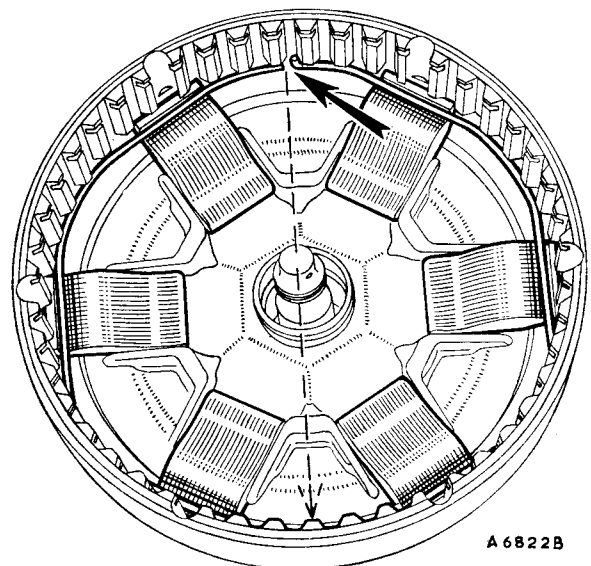
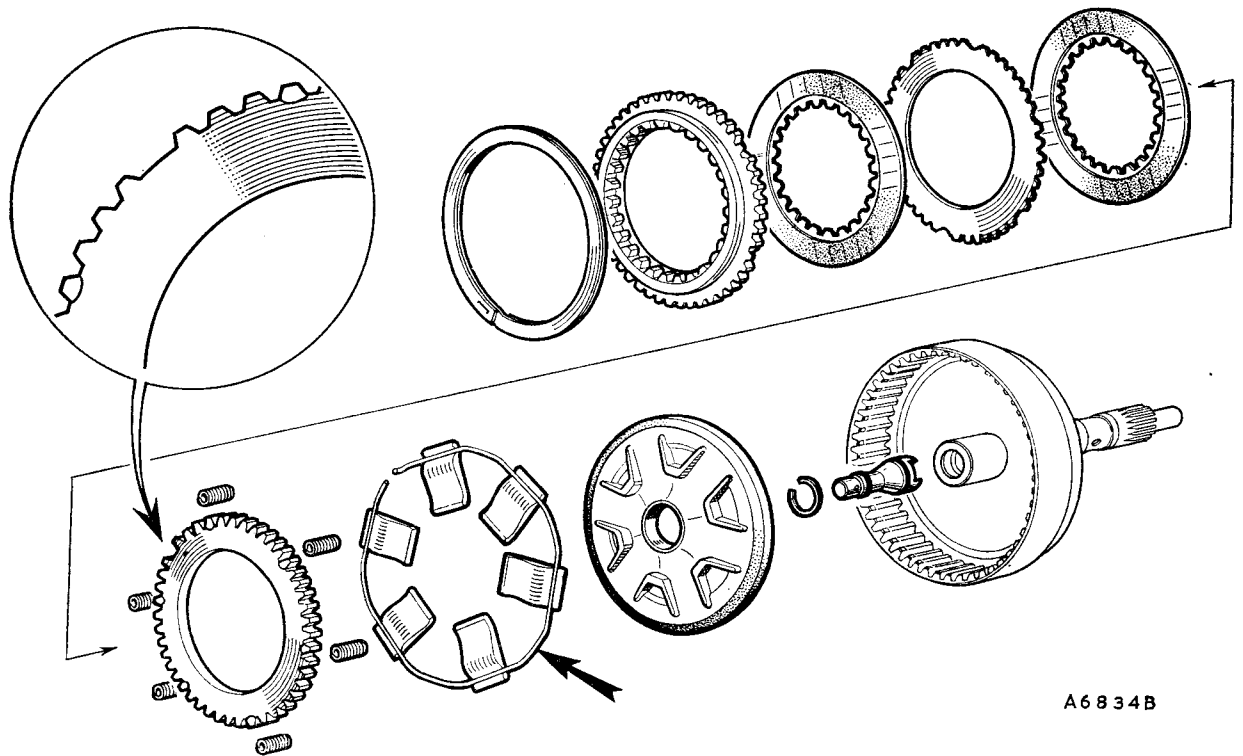
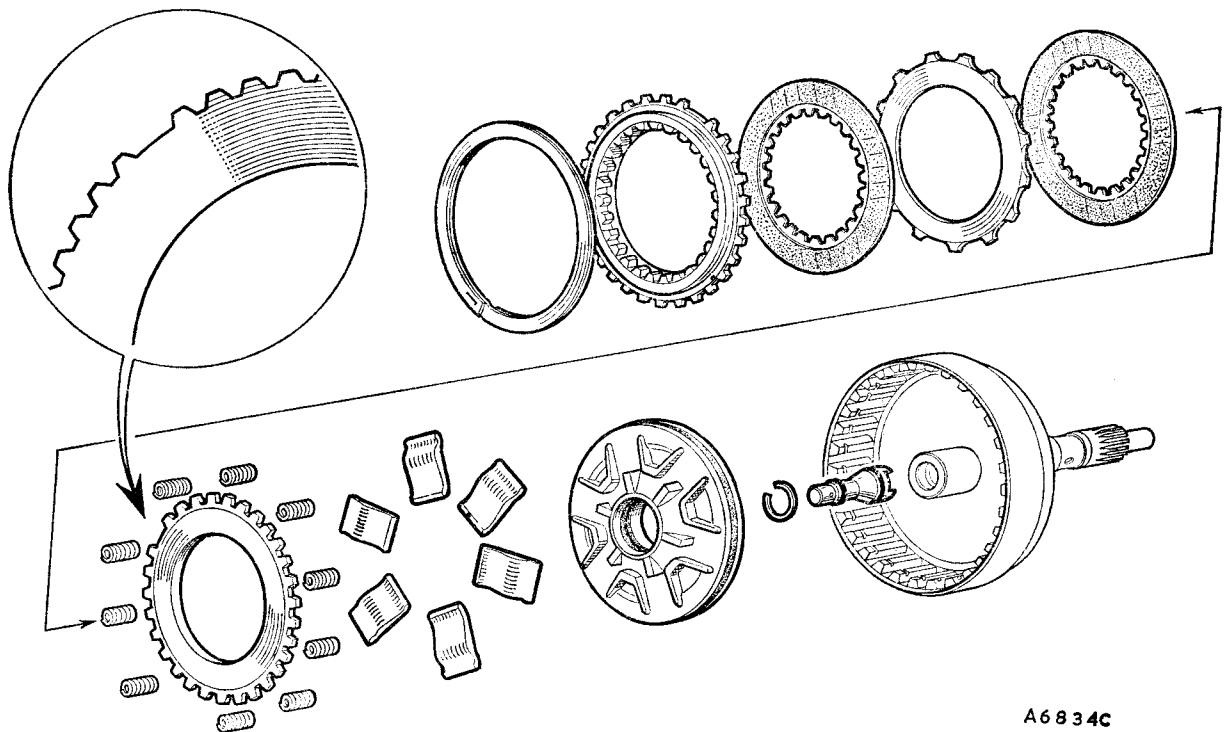
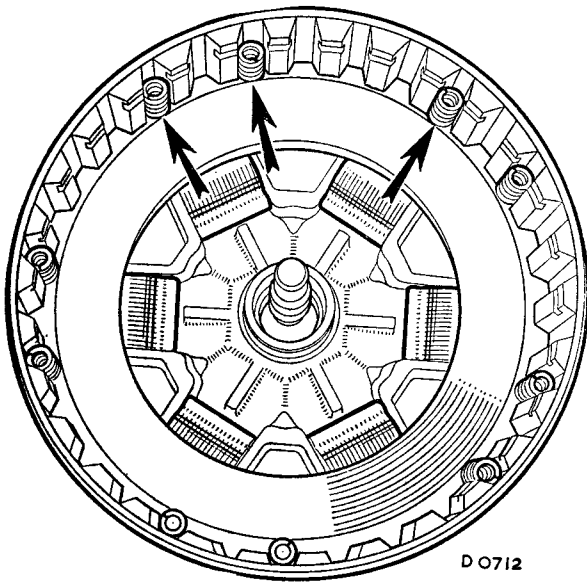

Fig. Fa.33
Fig. Fa.34
Fig. Fa.35
Fig. Fa.36
Two types of clutch assembly are in use; the earlier type having 47 teeth is shown in Fig. Fa.34. This unit is now replaced by the 30-tooth clutch as shown in Fig. Fa.35. The two clutch assemblies are not interchangeable; when a replacement unit is required only the identical unit to that removed must be fitted.
(3) Remove the retainer plate and clutch plates (two paper, one steel).
(4) Lift out the piston return springs and pressure plate.
(5) Remove the spring ring (if fitted) and toggles (see Fig. Fa.34).
(6) Use an air pressure line to blow out the piston.
(7) Remove the circlip and lift out the reverse shut-off valve.
- (9) Using Service tool 18G 1102, assemble the piston with the lips of the seal facing inwards and lubricated with transmission oil.
- (10) 47-tooth clutch. Assemble the toggles and spring ring (early units) with the ends of the spring ring located as shown in Fig. Fa.33, and with the cut-out tooth on the pressure plate in the relative position to the ends of the spring ring (Fig. Fa.34). Assemble the clutch plates and the piston return springs.
- (11) 30-tooth clutch. Assemble the toggles, pressure plate, and the piston return springs as shown in Fig. Fa.36. Refit the clutch plates and the retainer plate (see Fig. Fa.35).